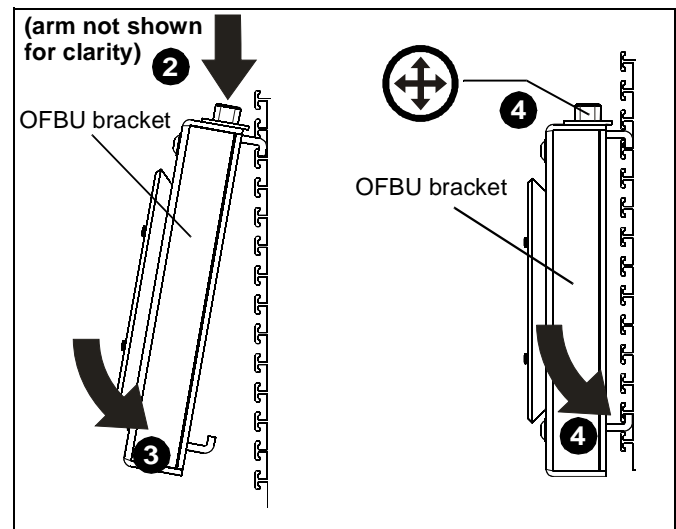

Figure 3
2. Locate desired installation location and slide upper mounting plate into wall making sure bracket is seated in channel bottom. (See Figure 3)
4. Using 1/2" socket, tighten tension hex head bolt until lower mounting plate slides into channel in wall and continue tightening until resistance is felt. (See Figure 3)